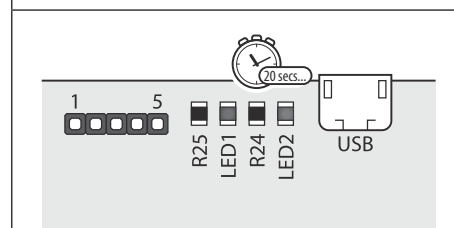

Fig. 37
4. After approximately 12 seconds both the red LED (LED1) and the green LED (LED2) will switch **ON** for approximately 20 seconds or so while the GSM module resets back to factory default, as shown in **Fig.37**;